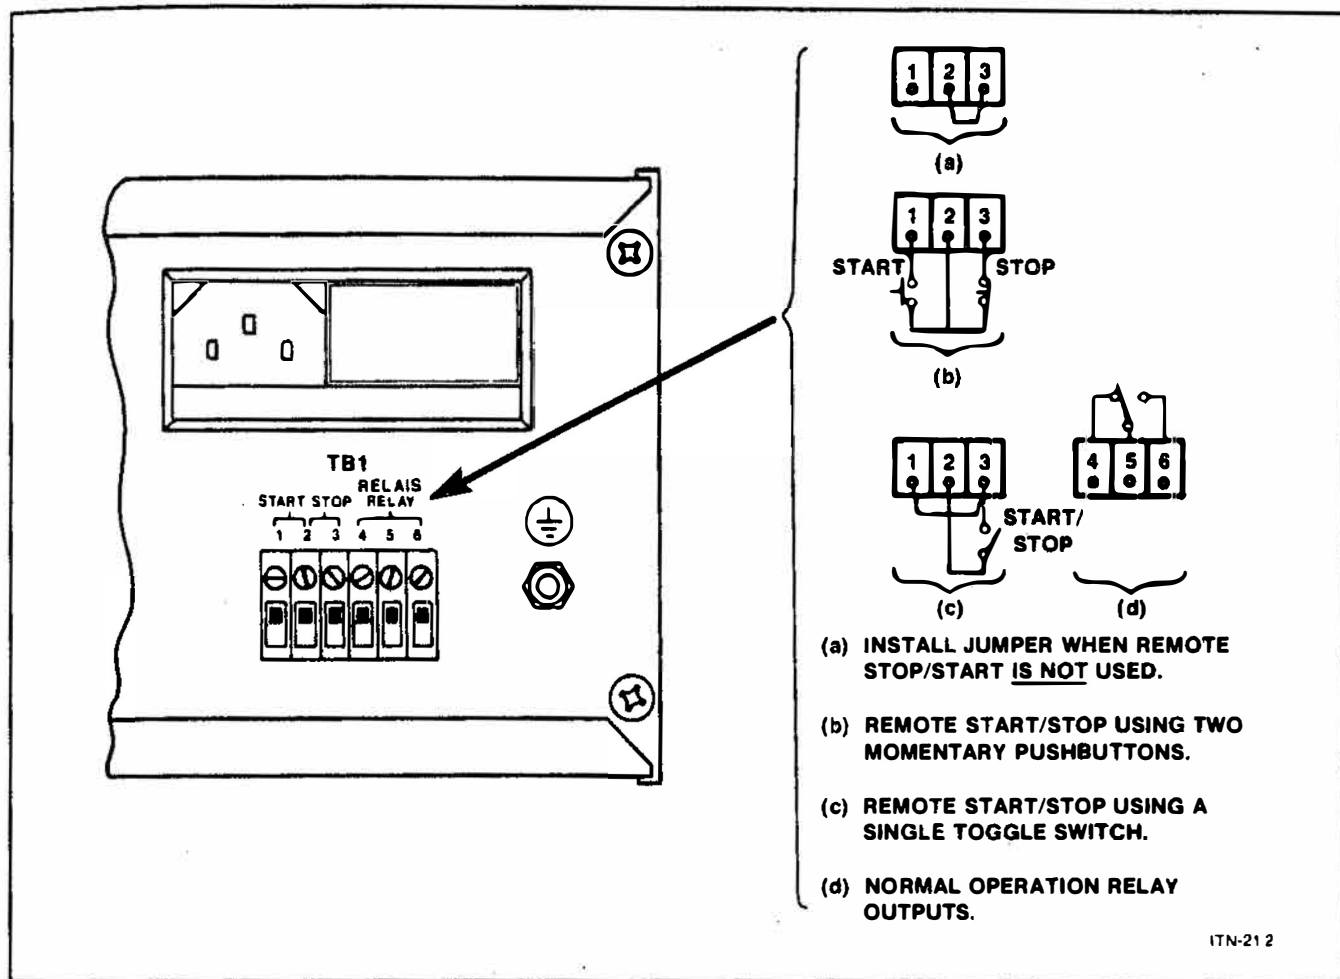

Figure 2-4. Rear Panel Terminal Block (TB1) Wiring
If you DO NOT wish to use the remote start-stop features, ensure that a jumper wire is connected between rear panel terminals TB1-2 and TB1-3. See Figure 2-4(a).
1. The first method uses two momentary pushbutton switches which function the same way as the converter's front panel START/STOP controls. This wiring arrangement uses a momentary switch closure to start the turbopump, and a momentary switch open to stop the turbopump. Note that a short term power failure will reset the converter and stop the turbopump. Wire according to Fig. 2-4(b).
2. The second method uses a single toggle switch. With this wiring configuration, the turbopump starts when the switch is closed and stops when the switch is open. An advantage of wiring your system in this fashion is that following a short term power failure, the turbopump will automatically restart without operator involvement. Wire according to Figure 2-4(c).
Rear panel RELAY terminals TB1-4, -5, -6 are connected to the normally-open and normally-closed contacts of a relay which is energized when the converter switches to normal operation. External indicating or control devices can be activated by these relay contacts which have a maximum rating of 8 amperes at 240 V AC and 24 V DC. See Figure 2-4(d).
3. Electrically connect the Water Flow Switch to the remote STOP terminals on the rear panel of the converter as follows(see Figure 2-4):